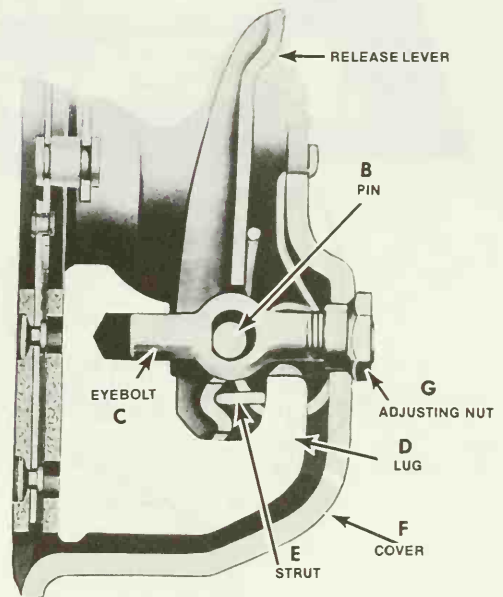

Figure 2-17. Release lever operation. (General Motors Corporation)
and contacts the inner ends of the release levers (A in Figure 2-17). Each release lever is pivoted on a floating pin (B) which remains stationary in the lever and rolls across a short flat portion of the enlarged hole in the eyebolt (C). The outer end of each release lever engages the pressure plate lug (D) by means of a strut (E), which provides knife edge contact between the outer end of the lever and the lug. The outer ends of the eyebolts extend through holes in the stamped cover (F), and are fitted with adjusting nuts (G), to correctly position the levers.